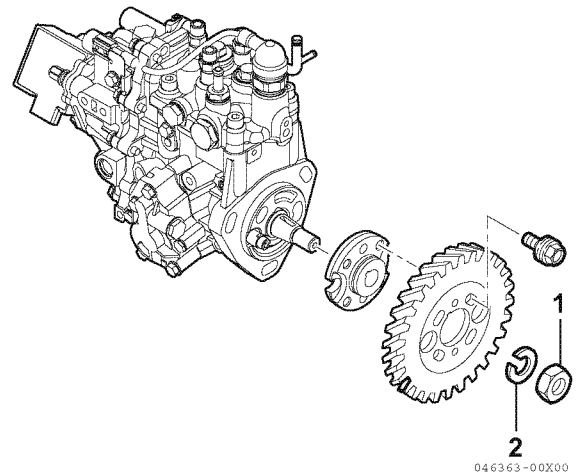

Figure 7-19
5. Reinstall the fuel injection pump drive gear lock washer (2, **Figure 7-19**) and nut (1, **Figure 7-19**). Do not lubricate the threads of the nut or shaft. Hold the crankshaft pulley bolt with a socket wrench and tighten the drive gear nut to the specified torque. See *Special Torque Chart* on page 7-5.